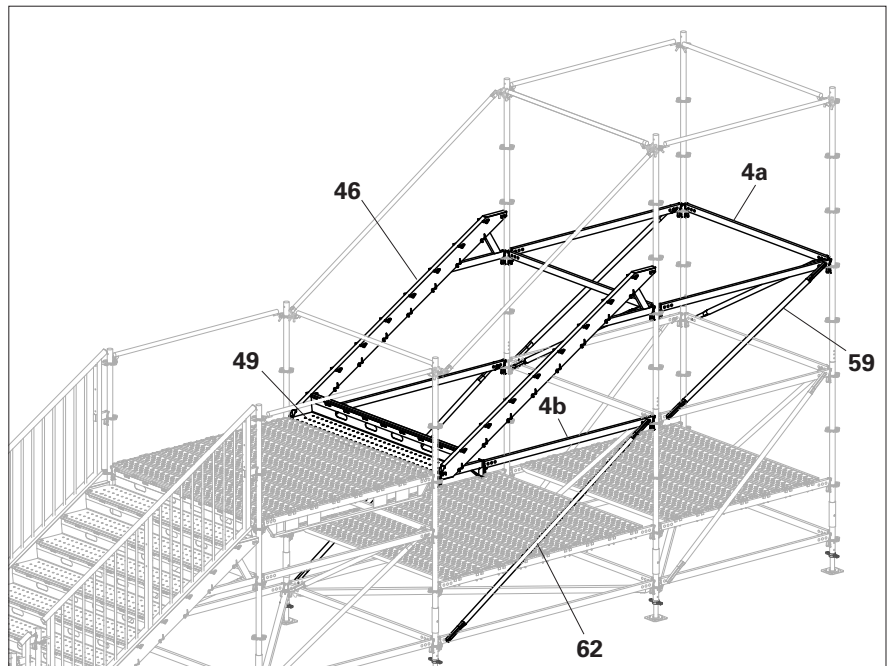

Fig. C1.12
5. Fit the first Stair Tread PATS 200 (**49**). (Fig. C1.12)